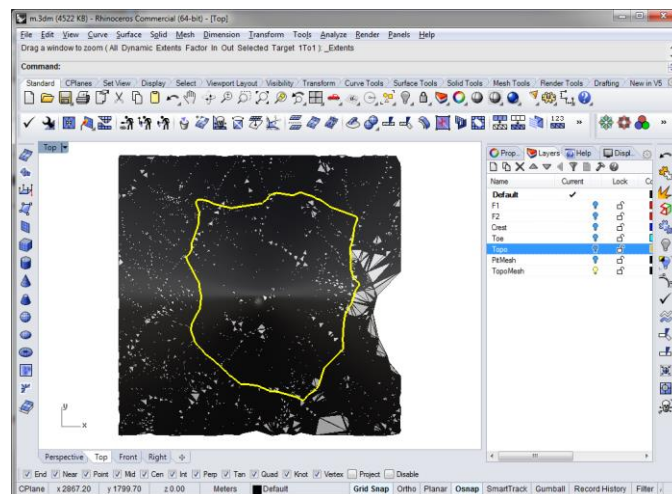

Figure 148: TopoMesh and pit boundary curve.
2. **Hide PitMesh** in the Layers panel, leaving only the boundary **curve** visible. Turn on the **TopoMesh** layer and select the **Top view**. **Edit|Select Objects|Curves** to highlight the boundary curve (Figure 148).